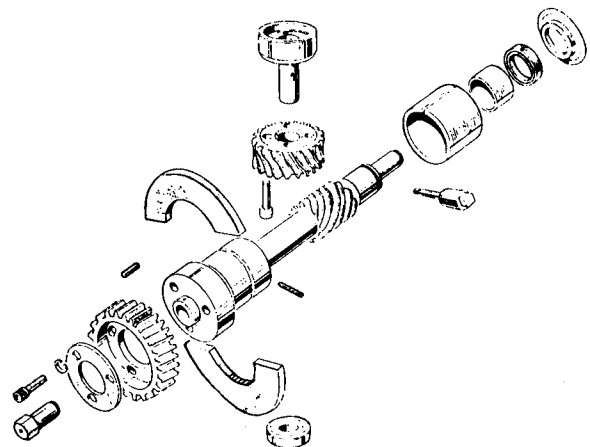

Fig. J.13.
6. Remove the sump and oil pump (Page K.6 and K.7) and tap the fuel pump drive shaft up out of the crankcase. Remove any shims that may be present at the bottom of the bearing recess. An exploded view of the normally aspirated and early turbocharged fuel pump drive assembly is shown in Fig. J.13. Current engines have an hydraulic worm-wheel assembly which is described later.